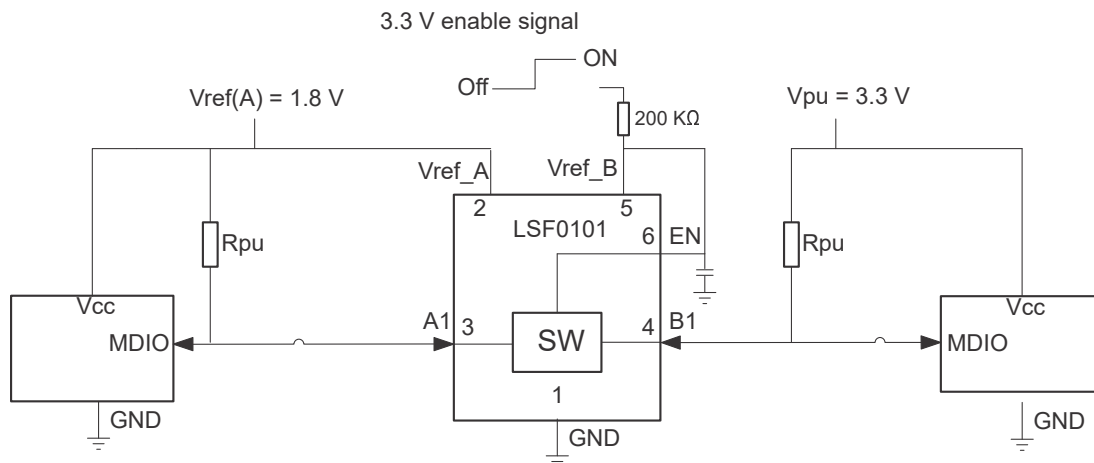

Figure 9-1. Typical Application Circuit for Open-Drain Translation (MDIO Shown as an Example)
- V_{CCB}/V_{CCA} are not the same as V_{ref_B} or V_{ref_A} : V_{CCB} refers to the B-side supply voltage supplied to the LSF device, while V_{ref_B} refers to the voltage at the V_{ref_B} pin (pin 5 of Figure 9-1) on the other side of the 200 k Ω resistor.